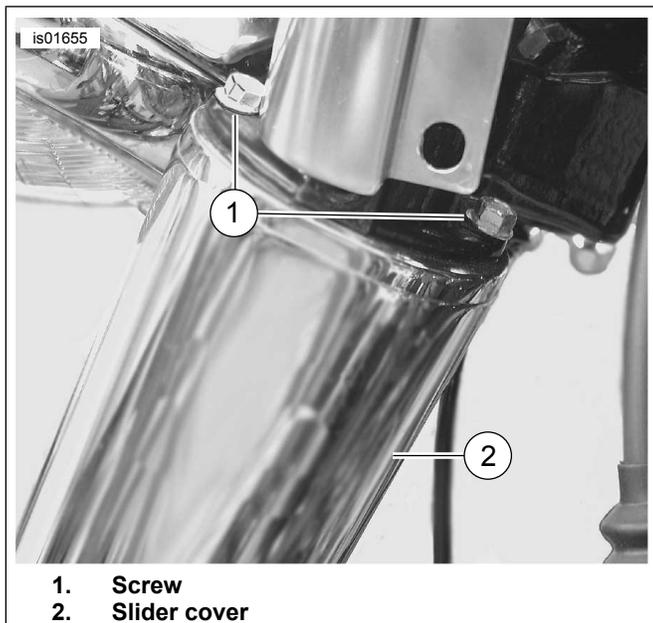

Figure 2. Slider Cover
9. See Figure 2. Obtain the new Edge Cut Fork Cover from kit. Apply Loctite 243 to the screws (1) saved in Step 8. Align the new slider cover (2) with the **flat face inward to avoid fender contact** and install to the lower fork bracket. Tighten the screws to 6.8–13.6 N·m (60–120 in-lbs).